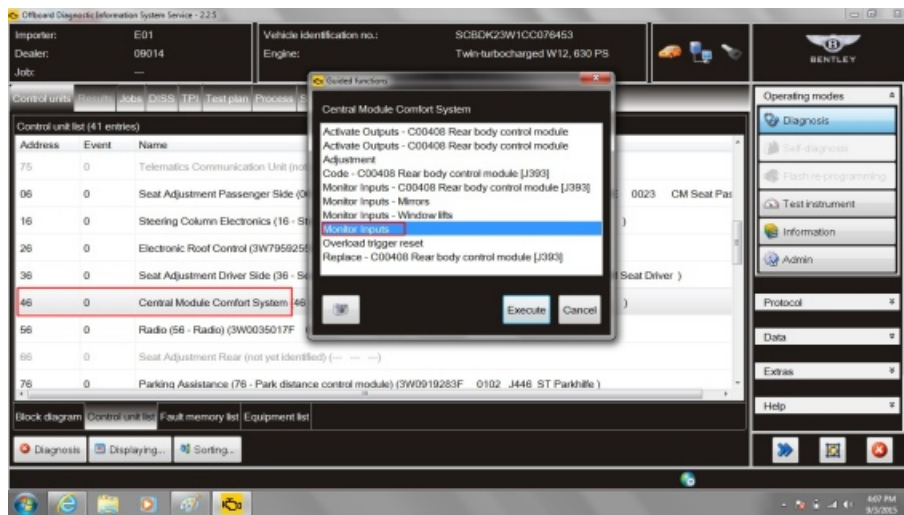

Figure 19
- Within Control units, *Central Module Comfort System*, Select *Monitor Inputs* and then Execute (see Figure 19)